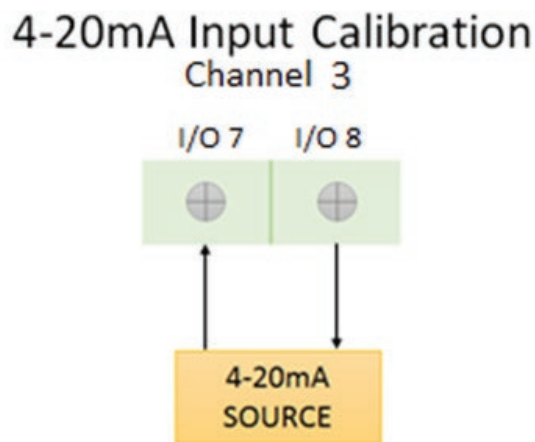

Figure 66: Option I/O analog input connections
1. Connect the Analog Input as in Figure 66.